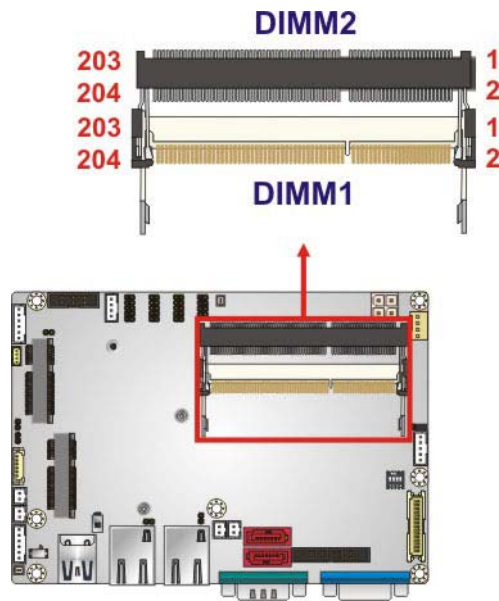

Figure 3-25: SO-DIMM Connector Locations
- CN Location:** See **Figure 3-25**